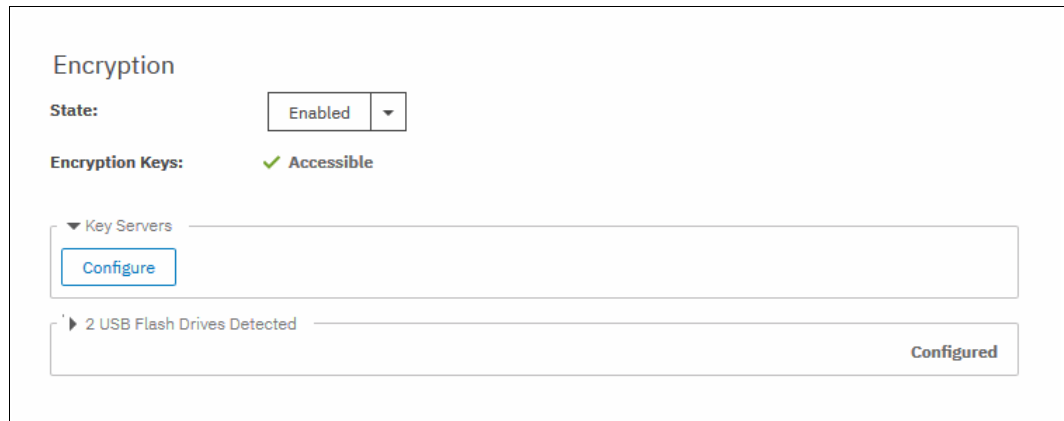

Figure 13-29 Encryption view showing using USB flash drives as the enabled provider
7. You can confirm that encryption is enabled and verify which key providers are in use by going to **Settings** → **Security** → **Encryption**, as shown in Figure 13-29.